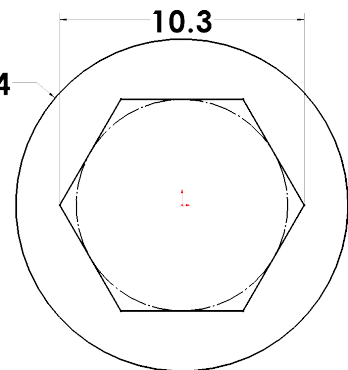

Fig. 5
Step 10. Dimension **diameter 14** and **10.3**, **Fig. 5**.